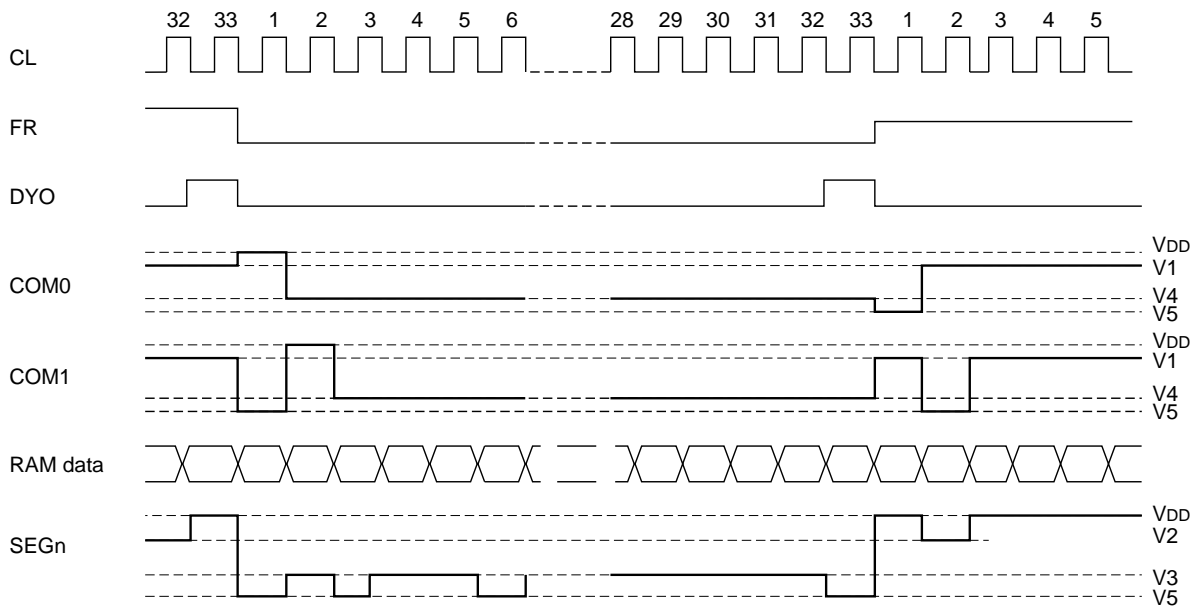

Fig. 6
When an AC signal (FR) is switched, a high pulse is output as a DYO output at the training edge of the previous display clock. Refer to Fig. 6. The DYO output is output only in master mode. When the S1D15300 series is used for multi-chip, the slave requires to receive the FR, CL, DYO signals from the master. Table 4 shows the FR, CL, DYO and DOF status.